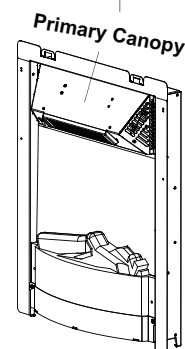

Fig.3
Before installing the SLE40, determine which frame is to be fitted. (Fig.1 & Fig.3)
3. The SLE40i with just Primary Canopy is shown in Fig. 3
2. Ensure the second canopy is removed from the fire. (Fig.3)